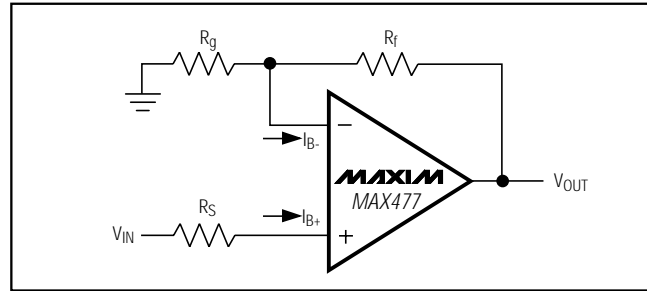

Figure 3. Output Offset Voltage
1) In Figure 3, total output offset error is given by: